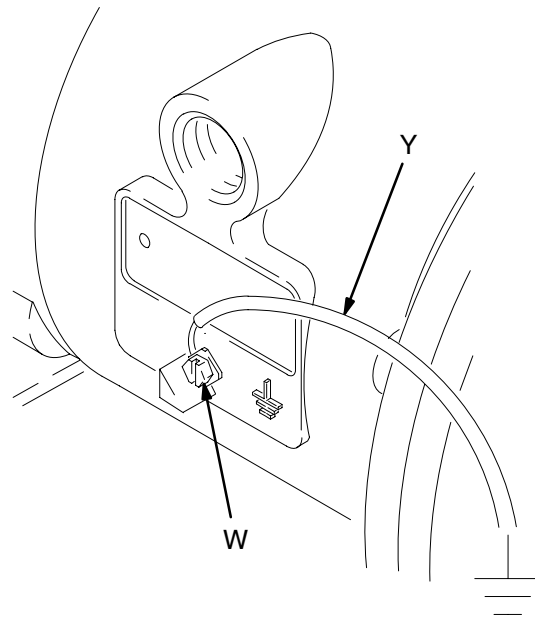

Fig. 1
- *Pump:* Connect a ground wire and clamp as shown in Fig. 1. Loosen the grounding screw (W). Insert one end of a 1.5 mm² minimum ground wire (Y) behind the grounding screw and tighten the screw securely. Connect the clamp end of the ground wire to a true earth ground. Order Part No. 819.0157 Ground Wire and Clamp.